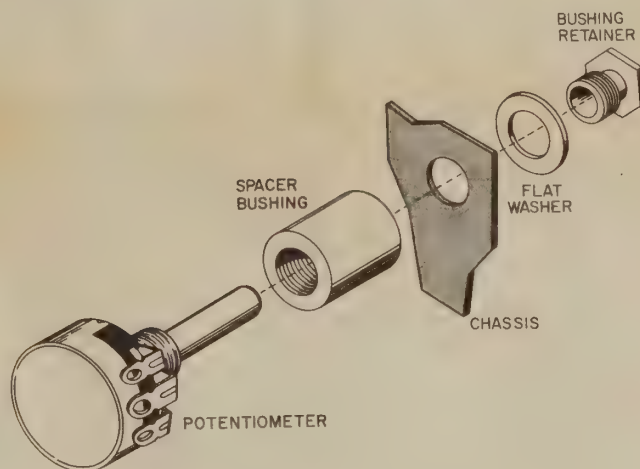

FIGURE 5. MOUNTING THE POTENTIOMETER
- ☐ Note that R-5, the 500 Ω potentiometer, has three **dummy** terminals marked with **color dots**. Mount R-5 following the assembly details shown in Figure 5. Position the dummy terminals so that they face the three pin jacks.